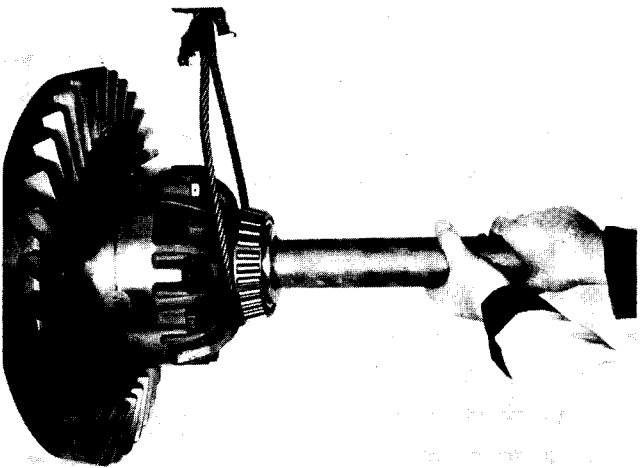

FIG. 118
12. After torquing bolts, insert axle shaft into differential so that it engages side gear and check for backlash between clutch teeth of NoSPIN differential (Fig. 118). A backlash of approximately $5/32$ inch must be present. If proper backlash does not exist, disassemble differential case halves and recheck for correct assembly. After reassembly, torque case bolts and lockwire bolts in pairs as shown in Fig. 106.